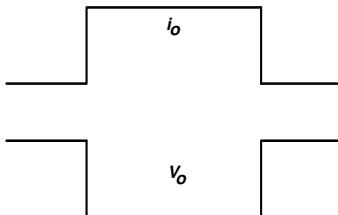
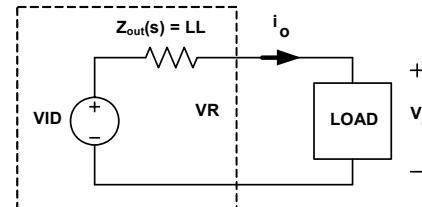

FIGURE 22. DESIRED LOAD TRANSIENT RESPONSE WAVEFORMS
FIGURE 28. VOLTAGE REGULATOR EQUIVALENT CIRCUIT
Assuming the compensator design is correct, Figure 22 shows the expected load transient response waveforms if C_n is correctly selected. When the load current i_{core} has a square change, the output voltage V_{core} also has a square response.
Figure 22 shows the desired load transient response waveforms. Figure 28 shows the equivalent circuit of a voltage regulator (VR) with the droop function. A VR is equivalent to a voltage source (= VID) and output impedance $Z_{\text{out}}(s)$. If $Z_{\text{out}}(s)$ is equal to the load line slope LL, i.e., a constant output impedance, then in the entire frequency range, V_o will have a square response when I_o has a square change.